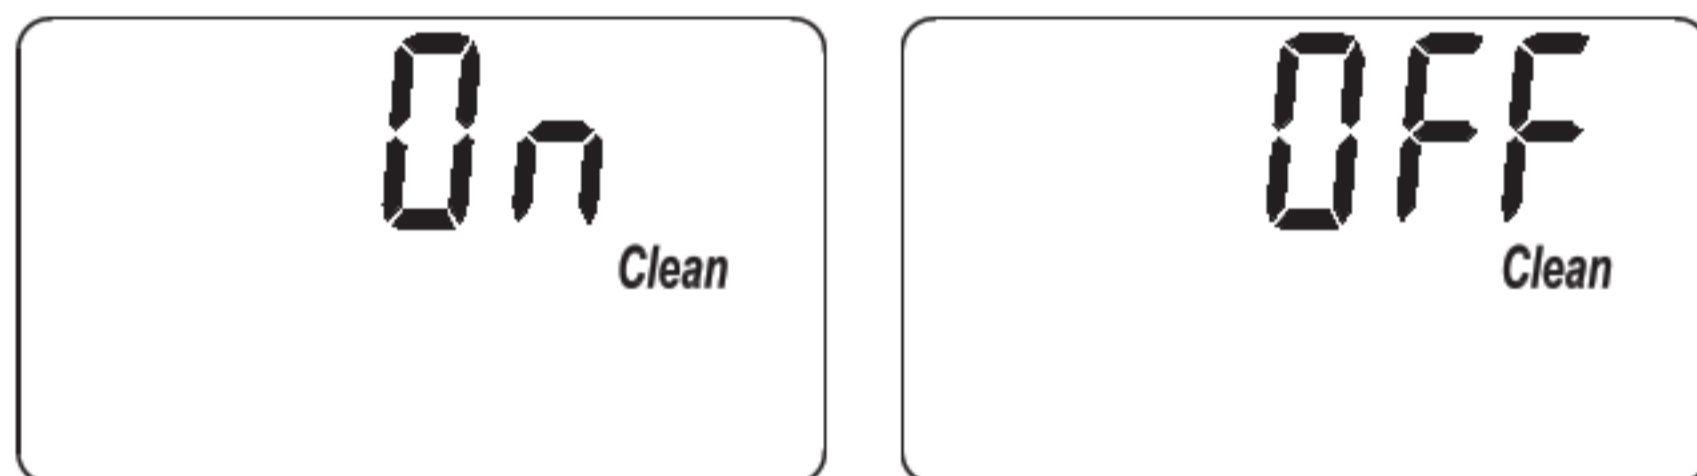

FIG. 38
1. Press and hold the PROGRAM button until the screen in Figure 37 is displayed. Once in this display, press the PROGRAM button twice and one of the two displays in Figure 38 is shown.